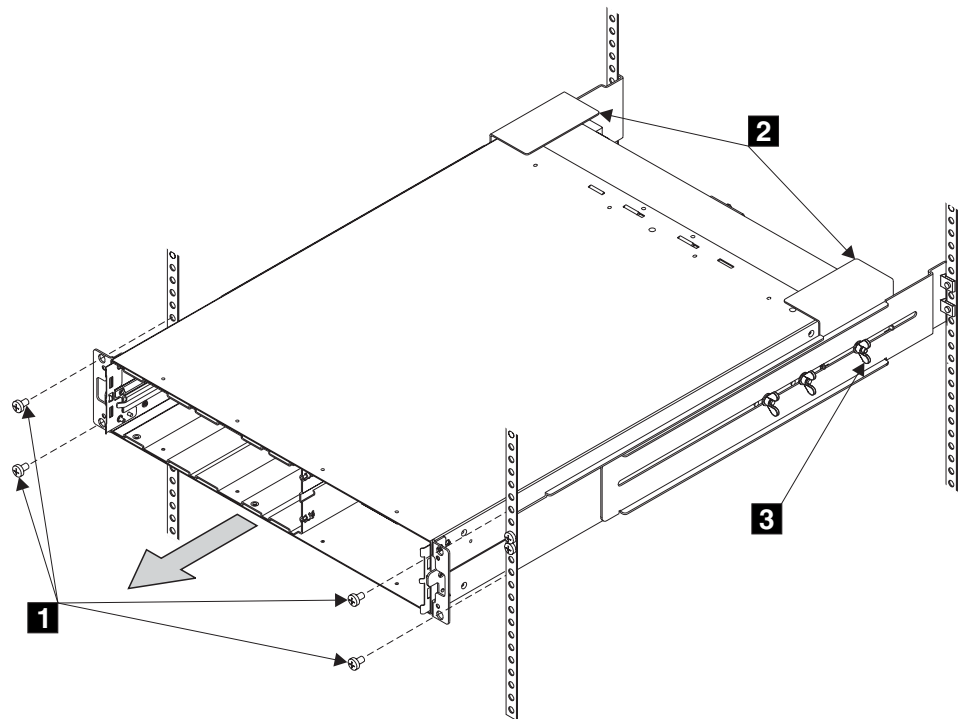

Figure 142. Removing the 2145 uninterruptible power supply
7. At the front of the 2145 UPS, unscrew the mounting screws, **1** in Figure 142.